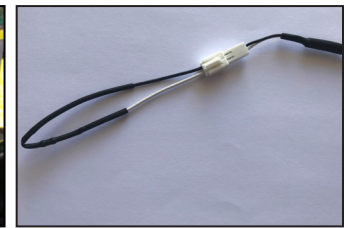

Figure 33 - Installed Resistor
3. Add a resistor to the cascade communication cable of the last unit. See Figure 33.